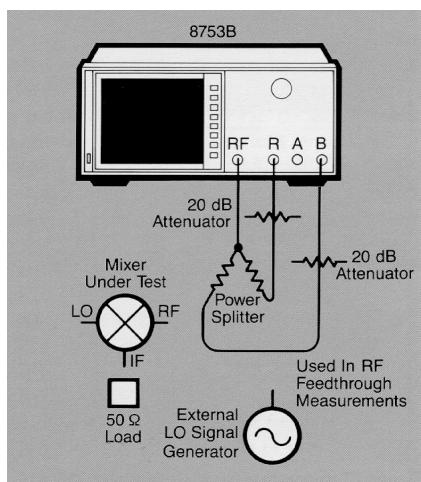

Figure 18. Block diagram for an isolation measurement
The equipment configuration necessary to measure isolation (feedthrough) between mixer ports is identical to that used in a transmission (B/R) measurement, shown in Figure 18.
1. Connect the hardware as shown in Figure 18.